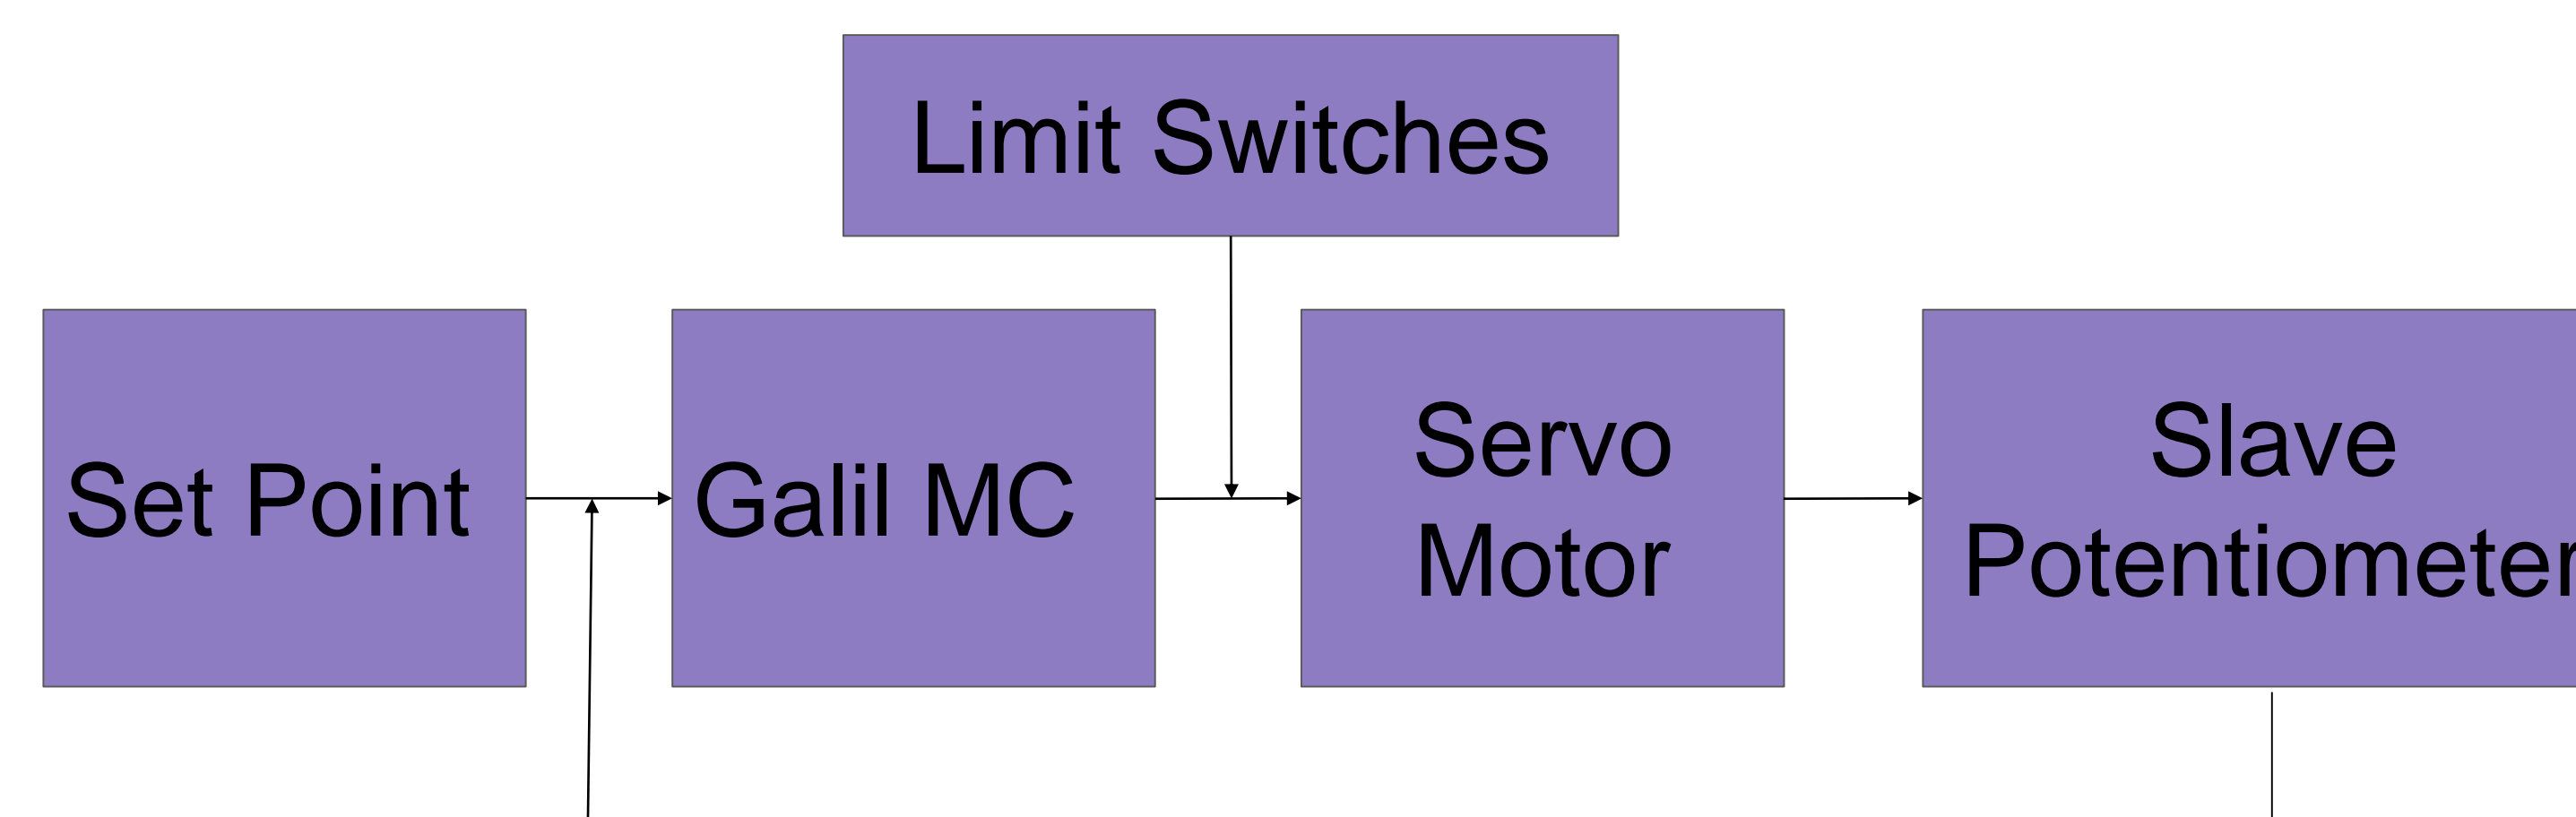

Figure 2: Control Diagram of Motion Control
- Grid/Coupling Capacitors: Follow the control loop outlined in Figure 2.